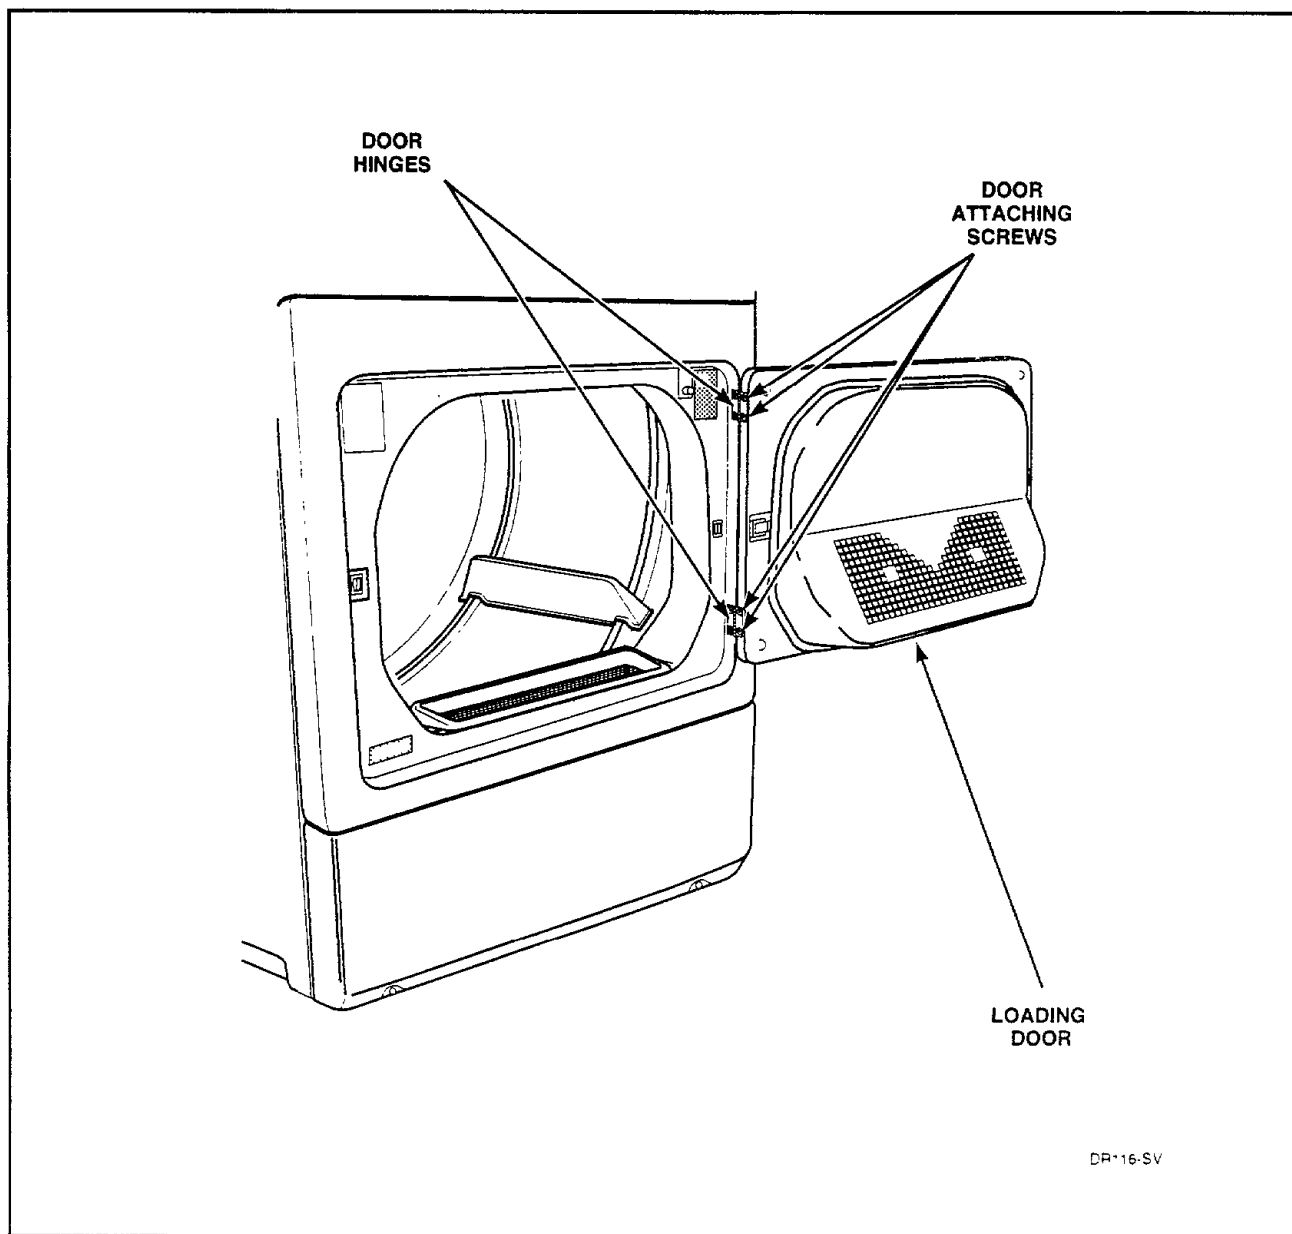

Figure 25
- a. Open loading door. While supporting door, remove four screws holding door assembly and hinges to front panel, *Figure 25*.
- b. Remove four screws holding hinges to loading door, *Figure 25*.